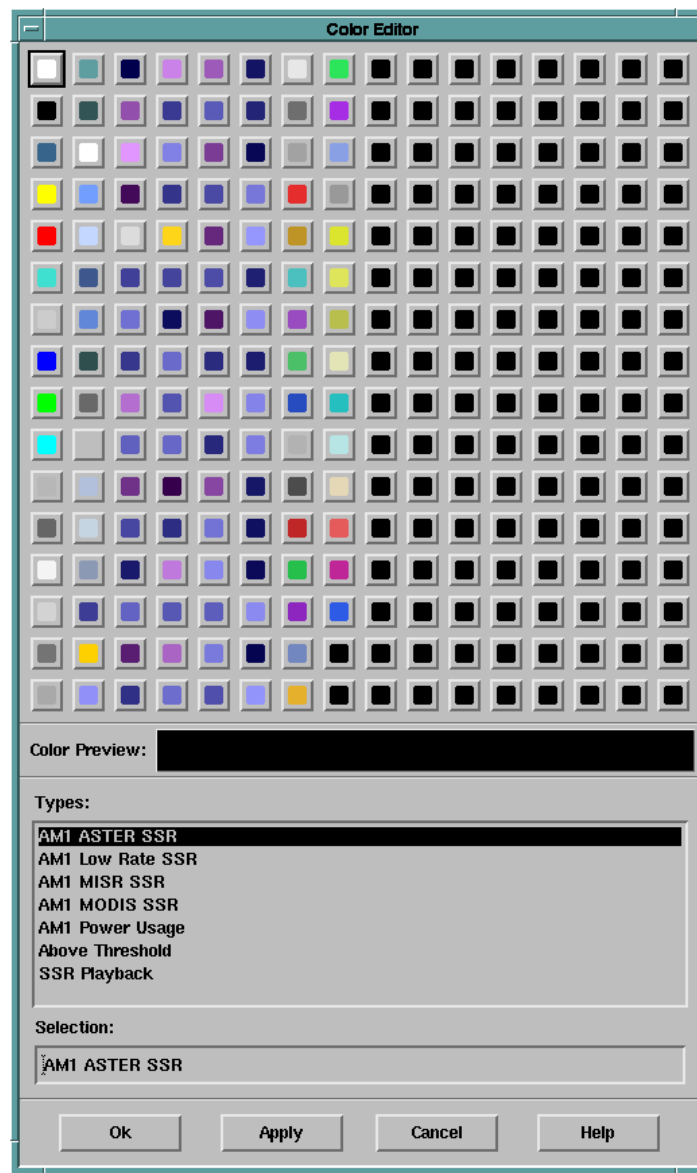

Figure 8.5.9.4-1. Color Selection Dialog Box
The Color Selection dialog box enables you to select the colors the Timeline uses to display scheduled activities and modes. Open the Color Selection dialog box (see Figure 8.5.9.4-1) by selecting **Colors** from the User Setup menu. The Color Selection dialog box consists of a color palette and a list of activities and modes currently visible on the active plan.
1. Choose **Color Selection...** from the User Setup menu. The Color Selection dialog box opens (see Figure 8.5.9.4-1).
The Timeline allows you to save the Timeline configuration in a file that may be loaded later. You may store several different configurations depending on the type of resources, activities, modes, and events you are interested in. This allows the FOT to standardize a configuration so that when the FOT and an IOT discuss a schedule conflict, they see the same resources, colors, etc., on their Timelines. In order to save or load a Timeline configuration file, use the Save Setup dialog box (see Figure 8.5.9.5-1) or the Load Setup dialog box (see Figure 8.5.9.5-2). Both are accessed via the Timeline.